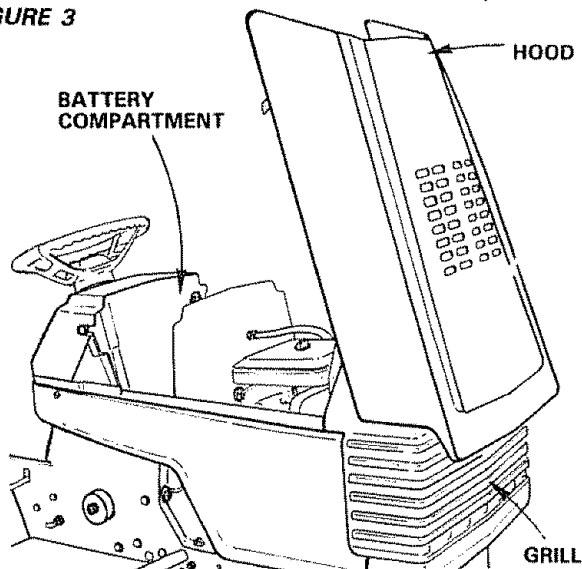

FIGURE 4
- a. Lift hood from rear sides (Fig. 4).